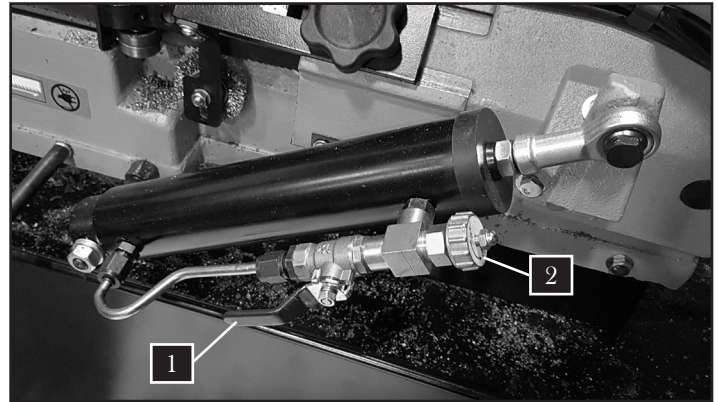

Fig. 32
2. Turn ON the hydraulic cylinder valve (Fig. 32 - 1) and place the saw arm in the horizontal position.
3. Turn the feed rate valve (Fig. 32 - 2) of the hydraulic cylinder counter-clockwise until it stops.